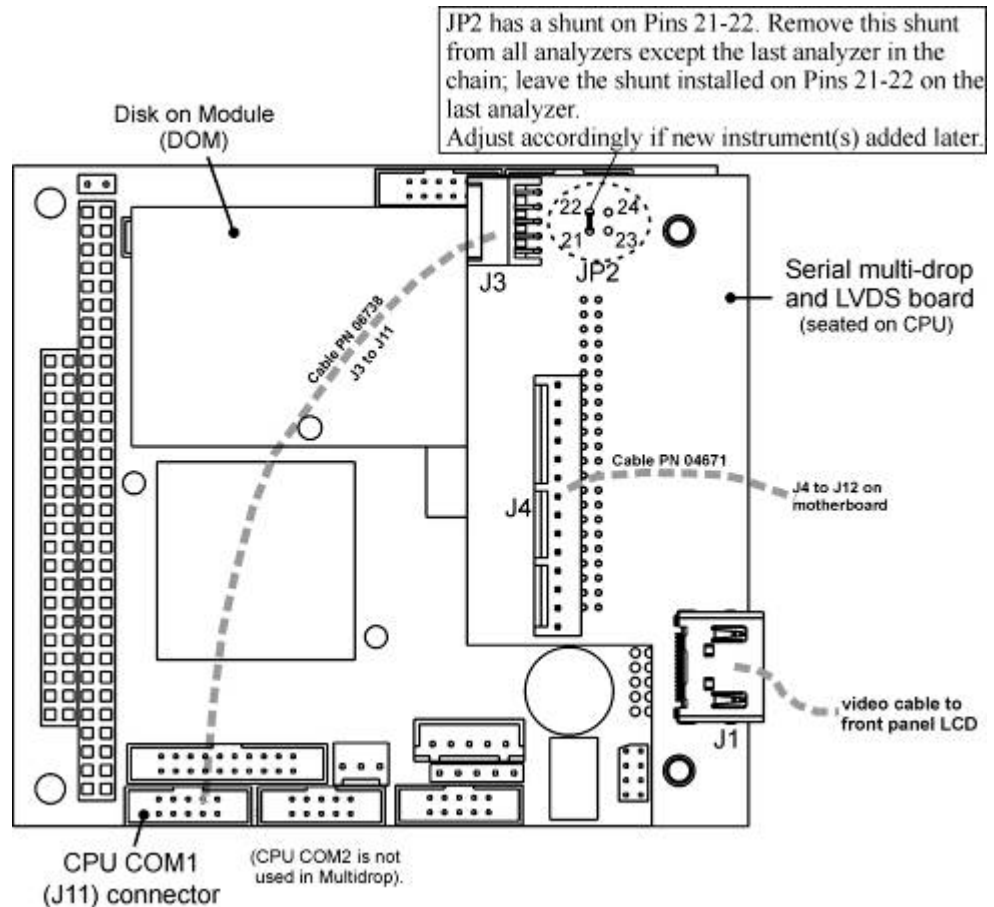

Figure 2-11: Jumper and Cables for Multidrop Mode
In each instrument with the Multidrop option there is a shunt jumpering two pins on the serial Multidrop and LVDS printed circuit assembly (PCA), as shown in Figure 2-11. This shunt must be removed from all instruments except that designated as last in the multidrop chain, which must remain terminated. This requires powering off and opening each instrument and making the following adjustments:
3. Check that the following cable connections are made in all instruments (again refer to Figure 2-11, and note that the CPU's COM2 connector is not used in Multidrop):